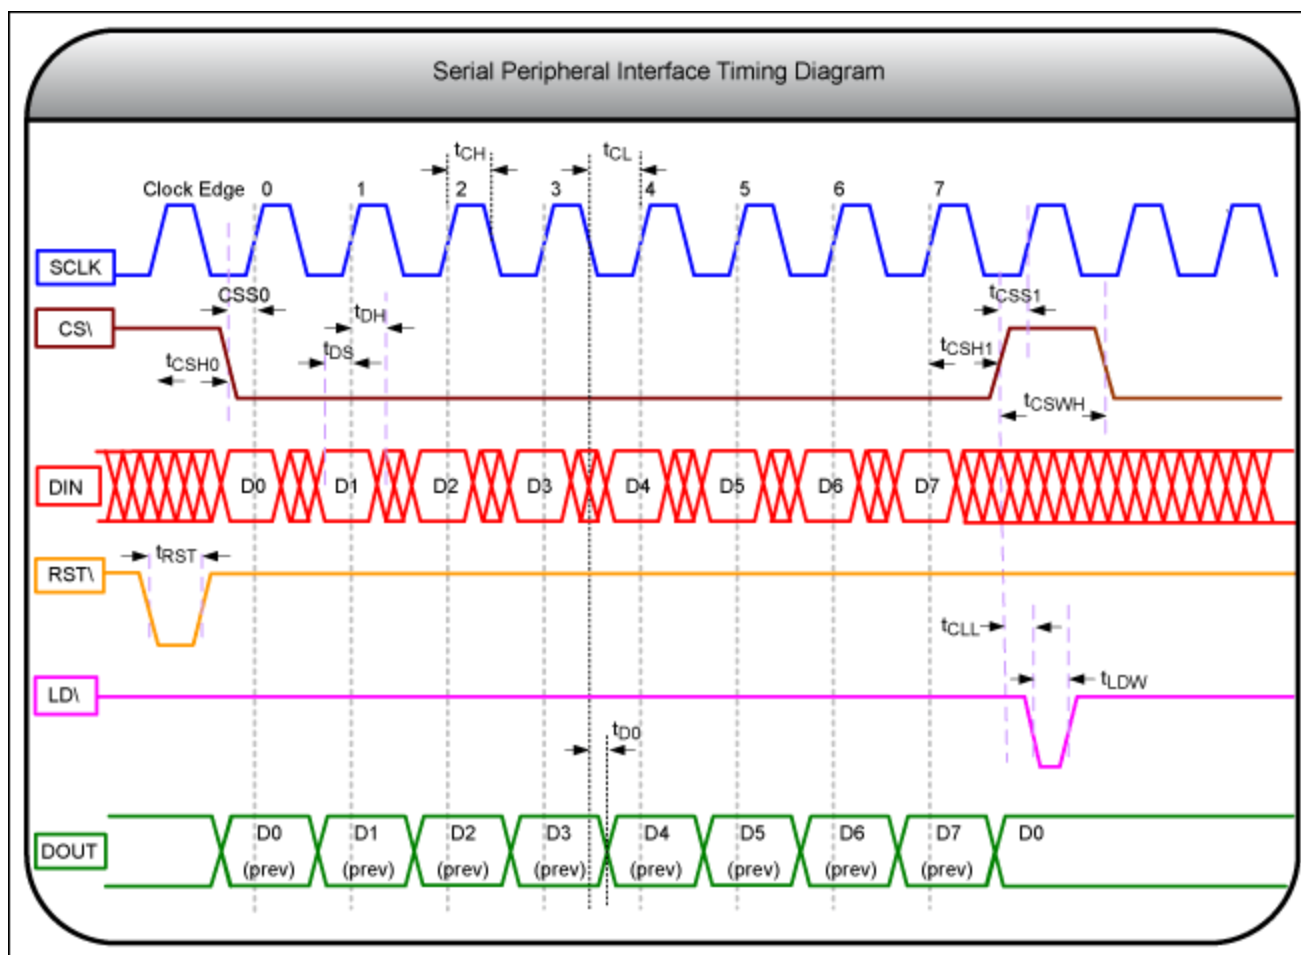

Figure 3. Detailed timing diagram of an 8-bit-word SPI example.
- Figure 3 shows the detailed timing of all the serial interface inputs and outputs.
listed in the device data sheet. **Table 1** defines these specifications with reference to Figure 3, and shows some typical values for reference.